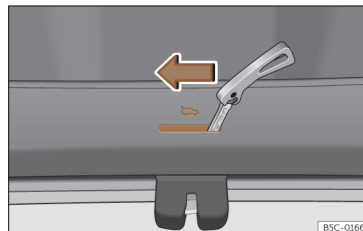

Fig. 68 Detail of the luggage compartment: emergency unlocking
- Insert the key blade into the slot and move the key in the direction of the arrow until the lock unlocks»» **Fig. 68**.